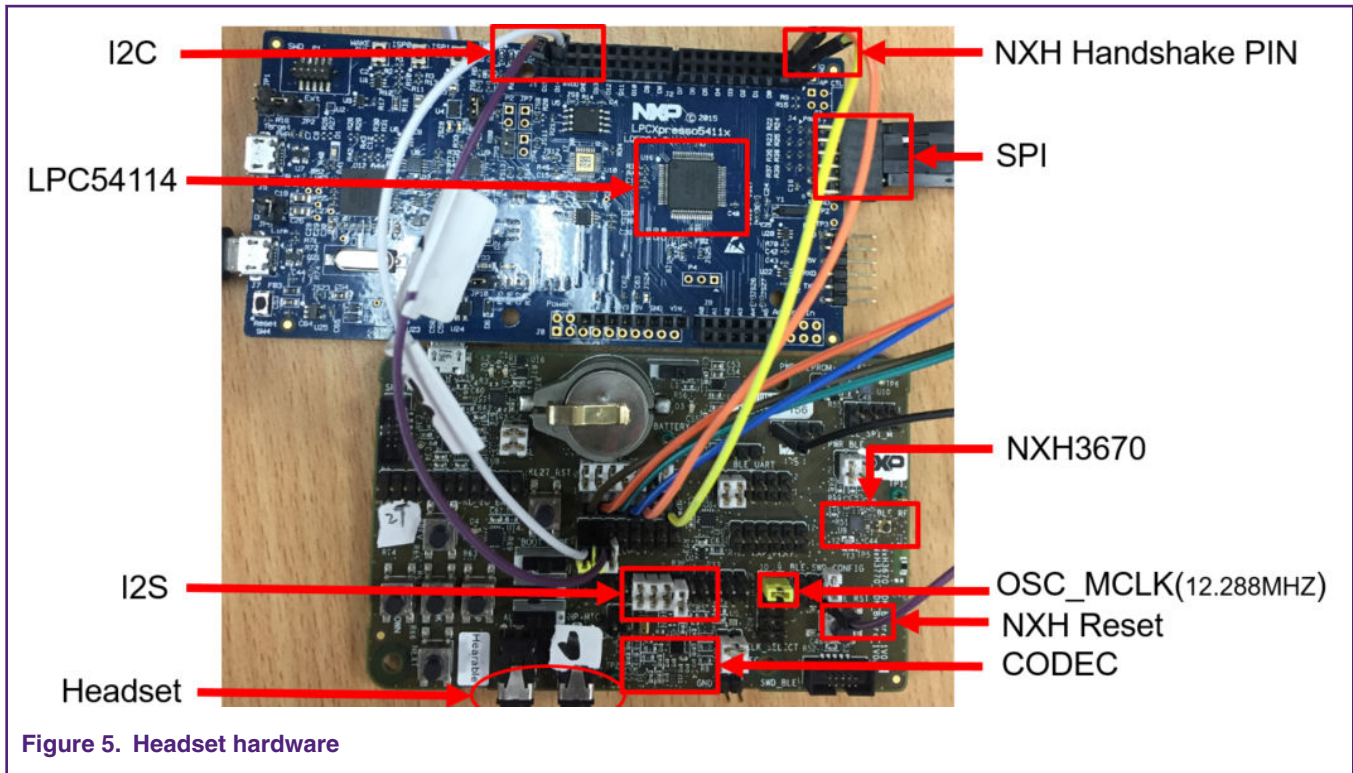

Figure 5. Headset hardware
- NxH3670 communicates with CODEC using I2S (as seen in Figure 5, the attached jumpers of 9-10, 11-12, 13-14 indicate that they can transfer data directly without the extra operation of LPC54114).
- Jumper 9-10 (J10 CLK\_SELECT, the yellow jumper OSC\_MCLK (12.288MHZ) in Figure 5) is obligatory, as it is used to obtain 12.288 MHz frequency and then provide 24.576 Mhz frequency to I2S's MCLK. PLL is recommended to be used to obtain higher frequency, if users want to reduce hardware cost and do not want use extra OSC.
- The Word Select (WS)/Left-Right Clock (LRCK) is 48 KHz.